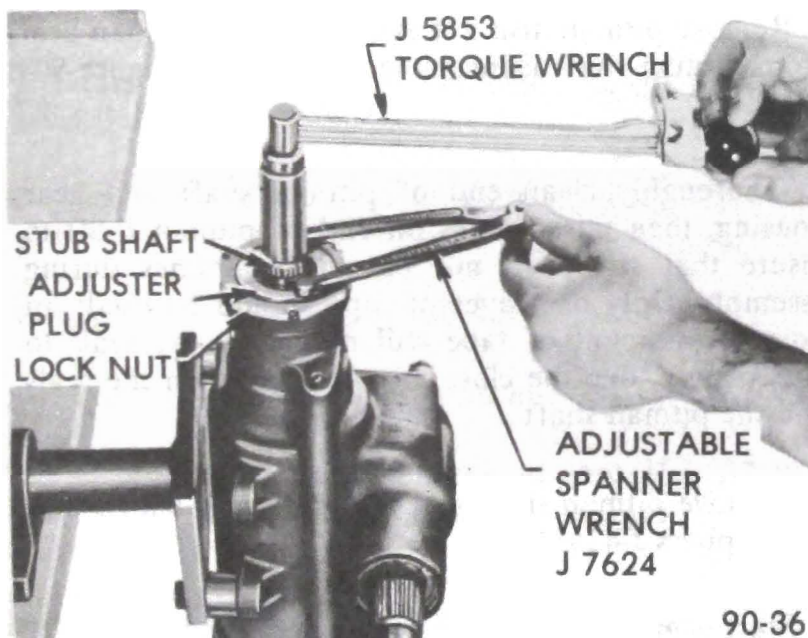

Figure 90-31 Adjusting Thrust Bearing Preload
7. Tighten adjuster plug until torque to turn stub shaft is 3 to 4 lb. in. greater than drag torque (with lock nut tightened). See Figure 90-31. Torque to turn stub shaft (drag plus thrust bearing) must not exceed 7 lb. in. Preload torque tends to drop off when the lock nut is tightened. Therefore, torque reading must be taken with the lock nut tight.